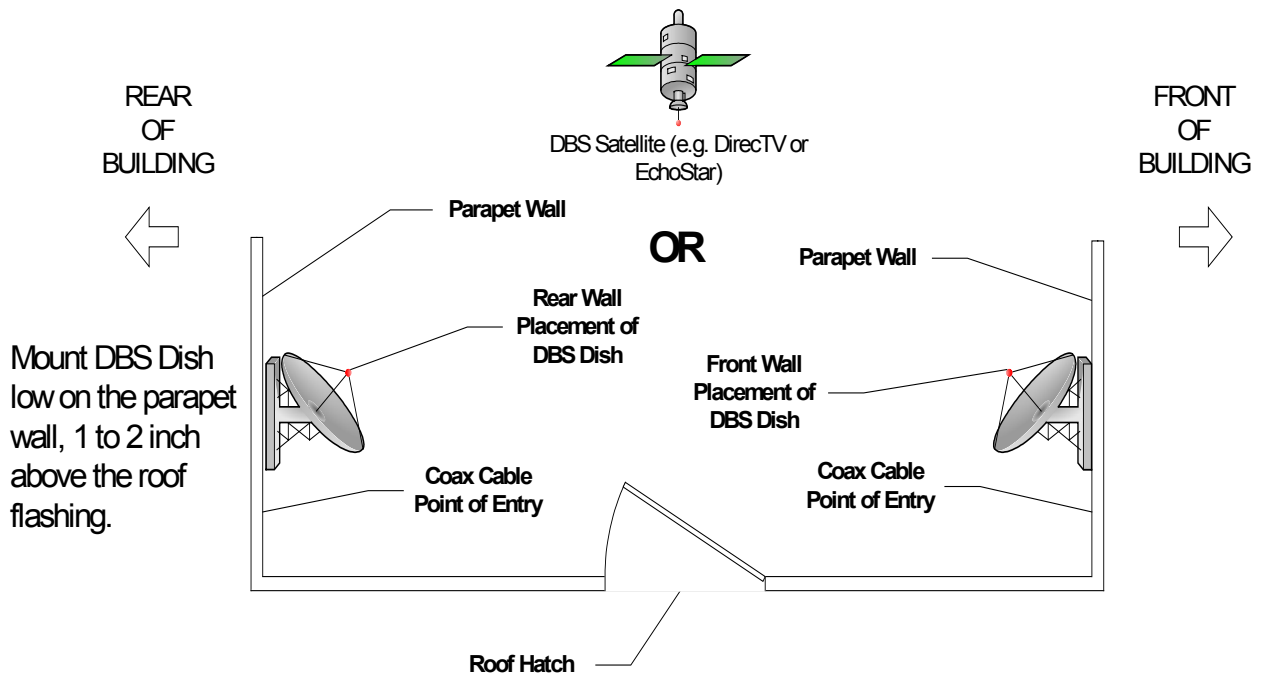

Figure 1. Placement of DBS Antenna on Parapet Wall, Flat Roof Common Area
1. The antenna mast mounting must be installed on the vertical parapet wall in the roof area above owner's unit (Figure 1).
7. The Gardens Homeowners Association retains the right to move or remove any devices on the roofs that (1) present a safety hazard, (2) are not properly maintained, or when (3) roof maintenance by the Homeowners Association is required in the area where device is installed. Homeowner acknowledges and agrees that the Homeowners Association, without liability, can require an owner to move a device or, if owner does not, may itself move said device.